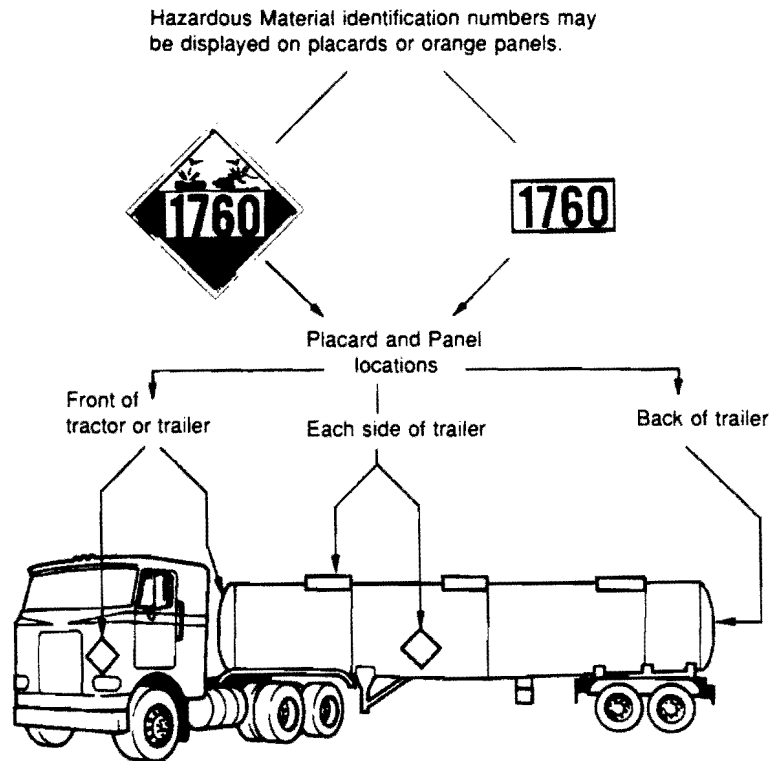

Figure 7-2
**Placards** are used to warn others of hazardous cargo. Placards are signs put on the outside of a vehicle to show the hazard class of the cargo. A placarded vehicle must have at least 4 identical placards. They are put on the front, rear, and both sides (see Figure 7-2). Placards must be readable from all four directions. There are 19 DOT specification placards. They are 10 3/4 inches square, turned upright on a point, in a diamond shape. Cargo tanks show the I.D. number of their contents on placards or orange panels.